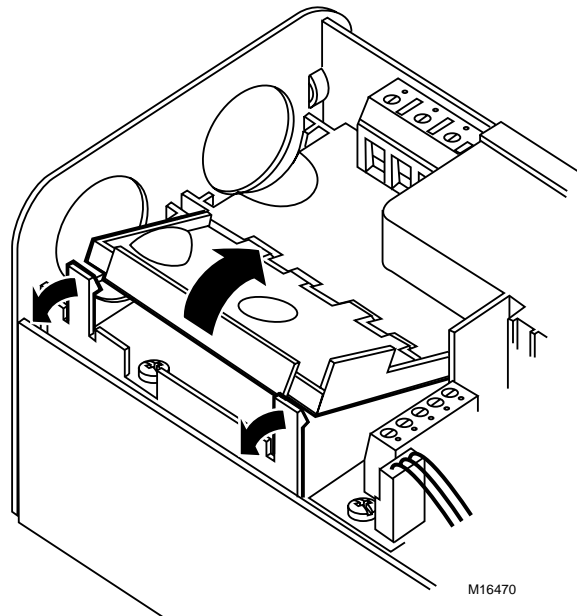

Fig. 4. Opening ML7999 low-voltage wiring chamber.
2. Pull back the snap-locks while opening the low-voltage chamber. See Fig. 4.